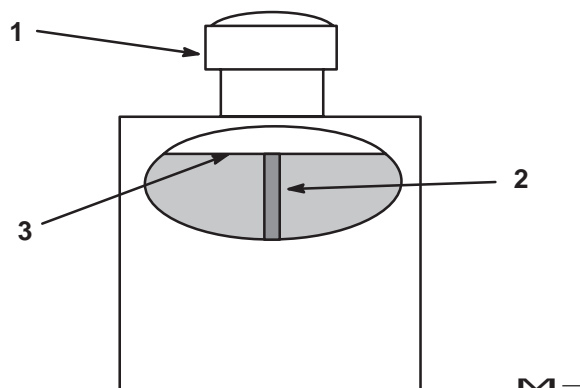

Figure 9
2. Clean area around filler neck of hydraulic tank (Fig. 9).
3. Remove cap from filler neck. Look inside to check if there is fluid in the reservoir. (Fig. 9).
Note: Fluid level should be to the top of the baffle when fluid is warm (Fig. 9).